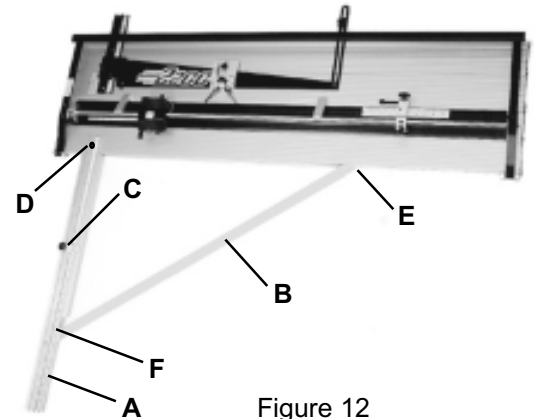

Figure 12
You will receive the **Right Squaring Arm** components disassembled into three parts, the **Right Squaring Arm (A)** with an inch/metric scale, the **Angle Brace (B)**, a **Squaring Arm Stop (C)** and fasteners. See Figure 12.